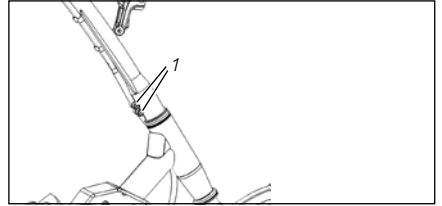

Fig.:29
1. Using a suitable Allen key, loosen the Allen screws on the clamping sleeve at the bottom end of the steering column (see "Fig.:29 (1)").